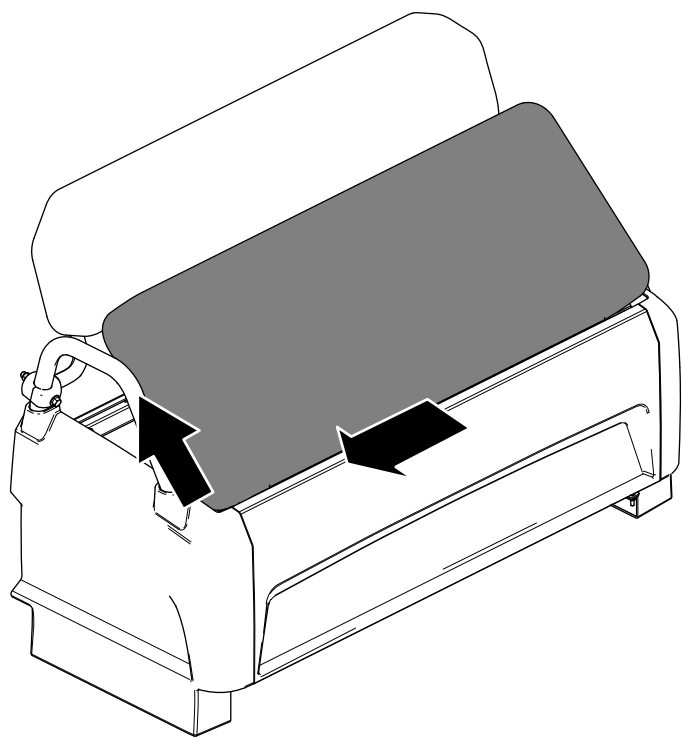

Figure 28
2. Slide the cushion to the side, out of the pins, and lift the cushion upward (Figure 28).